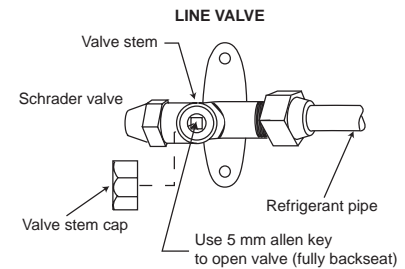

Figure 13
- Remove both valve stem caps. (See fig.13)